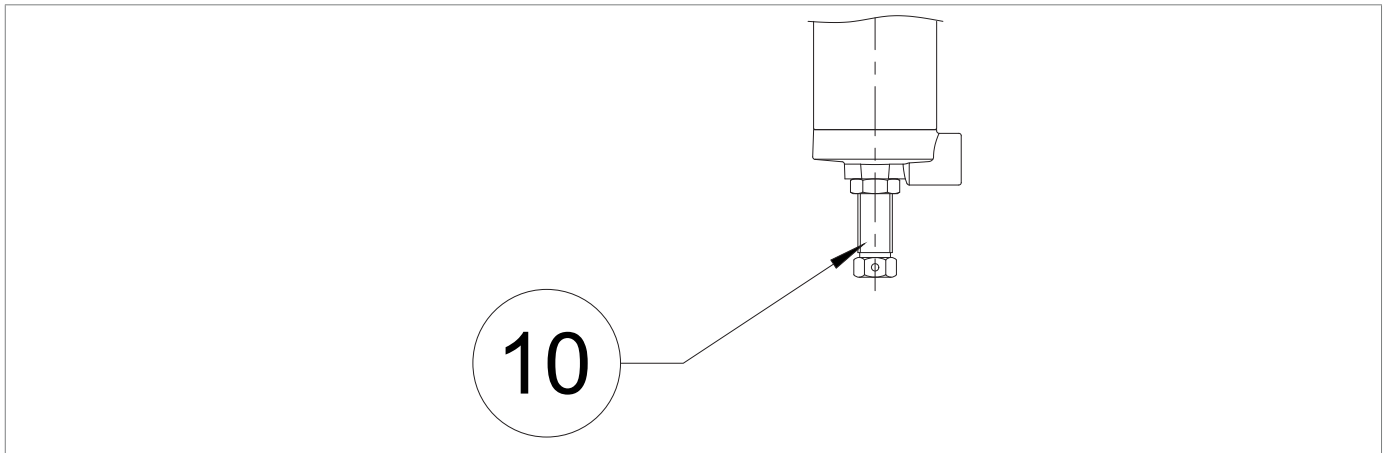

Fig. 8.37. 200/A/FO and 200/A series pilots
12	<p>a - FOR INITIAL COMMISSIONING OF THE REGULATION LINE</p> <p>If the pressure downstream (Pd) is not at the required calibration value, proceed as follows:</p> <ul style="list-style-type: none"> <li>value of the downstream pressure (Pd) is lower than the required calibration value: load the pilot calibration spring (3) by turning the adjustment screw (Fig. 8.37, ref. 10) clockwise</li> <li>value of the downstream pressure (PD) is higher than the required calibration value: unload the pilot calibration spring (3) by turning the adjustment screw (Fig. 8.37, ref. 10) clockwise</li> </ul>
<p>b - AFTER MAINTENANCE OF THE REGULATION LINE</p> <ul style="list-style-type: none"> <li>load the pilot setting spring (3) by turning the adjustment screw (Fig. 8.37, ref. 10) clockwise to increase the regulator pressure value (1)</li> </ul>
12	<p>a - FOR INITIAL COMMISSIONING OF THE REGULATION LINE            If the pressure downstream (Pd) is not at the required calibration value, proceed as follows:</p> <ul style="list-style-type: none"> <li>• value of the downstream pressure (Pd) is lower than the required calibration value: load the pilot calibration spring (3) by turning the adjustment screw (Fig. 8.37, ref. 10)</li> <li>• value of the downstream pressure (Pd) is higher than the required calibration value: unload the pilot calibration spring (3) by turning the adjustment screw (Fig. 8.37, ref. 10) clockwise</li> </ul> <p>b - AFTER MAINTENANCE OF THE REGULATION LINE</p> <ul style="list-style-type: none"> <li>• load the pilot setting spring (3) by turning the adjustment screw (Fig. 8.37, ref. 10) clockwise to increase the regulator pressure value (1)</li> </ul>